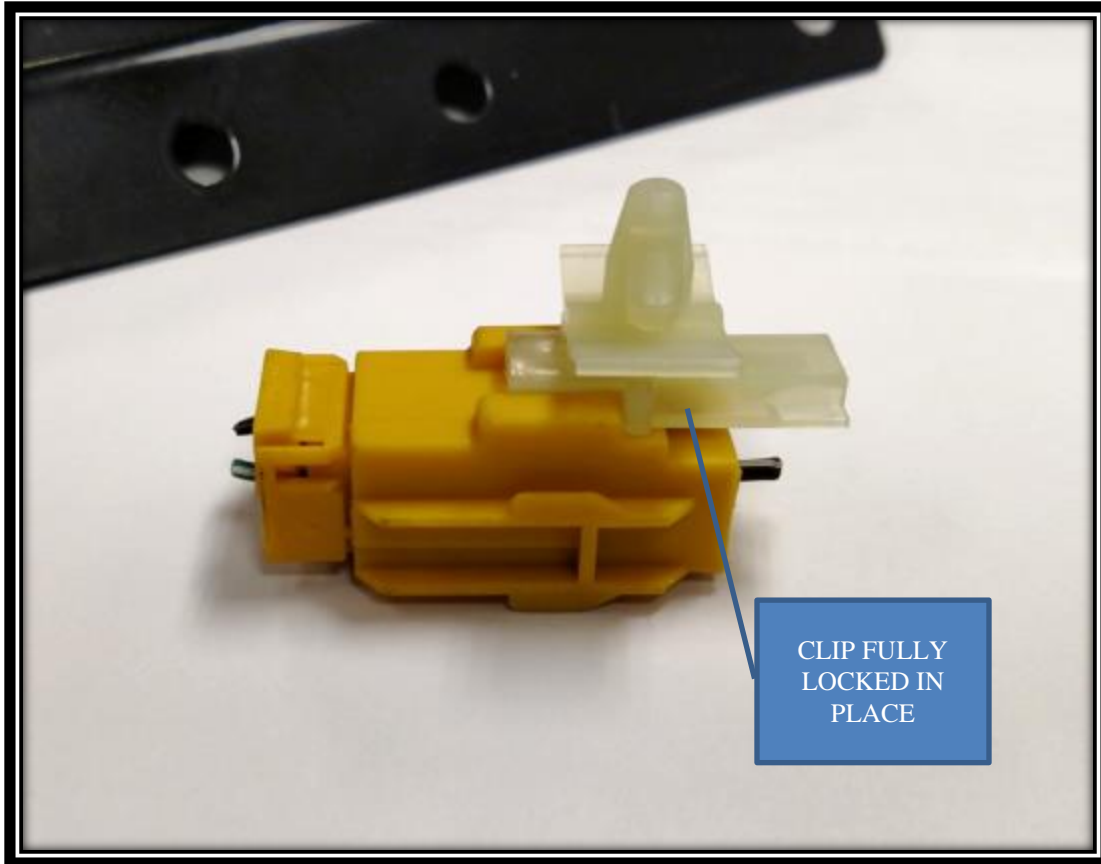

FIG. 4.1
5. Attach 0427-BB1-001 clip to all connections, insert clip until audible click is heard and clip is fully locked in place. Refer to FIG. 4.1.